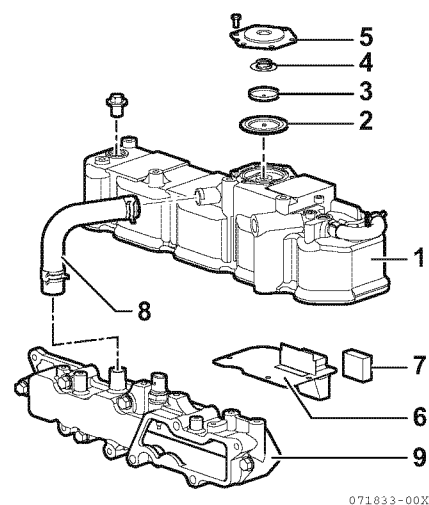

Figure 5-16
As shown below, for engines without turbochargers, when the diaphragm (2, **Figure 5-16**) attached to the cylinder head cover (1, **Figure 5-16**) via the spring (4, **Figure 5-16**) opens with a certain pressure where the pressure of the crank case connected to the breather baffle (7, **Figure 5-16**) attached to the baffle plate (6, **Figure 5-16**) becomes high, the breather system of the TNV/TN engine reduces the blow-by gas into the intake manifold (9, **Figure 5-16**) via the breather pipe (8, **Figure 5-16**).
1. Remove the bolts retaining the diaphragm cover (5, **Figure 5-16**).
2. Remove the diaphragm cover, spring, center plate (3, **Figure 5-16**) and diaphragm.